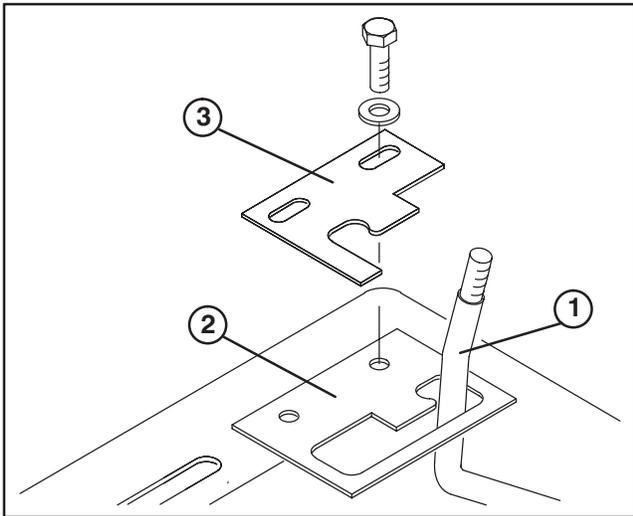

Figure 6
11. Place upper and lower detent plates over lever, positioning plates as shown in figure 6. Loosely secure plates to console frame with (2) 5/16–18 x 1" lg. capscrews and flatwashers. Do not tighten capscrews at this time.